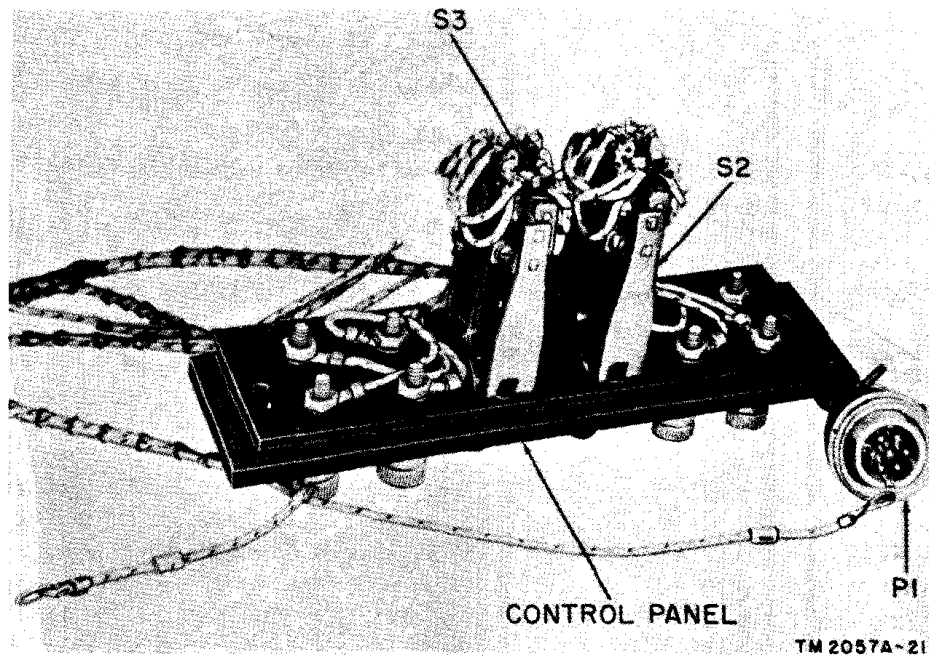

Figure 23. Test Set TS-27B/TSM, bottom view of control panel.
- (2) Remove two flathead screws from upper and lower end of control panel, and lift panel (fig. 23) from case.
f. LEVER SWITCHES S2 AND S3. Remove the control panel, and turn it face down on a suitable working surface (fig. 23). Disconnect the lead's from the terminals. Remove four mounting screws from the defective lever switch, and remove the lever switch from the control panel. Mount the new lever switch in place by reversing the removal procedures.
g. BINDING POSTS. Remove control panel, and turn it face down on a suitable working surface (fig. 23). Disconnect wire from defective binding post. Remove mounting nut from under side of panel, and remove the binding post from the panel. Mount new binding post in place by reversing removal procedures.